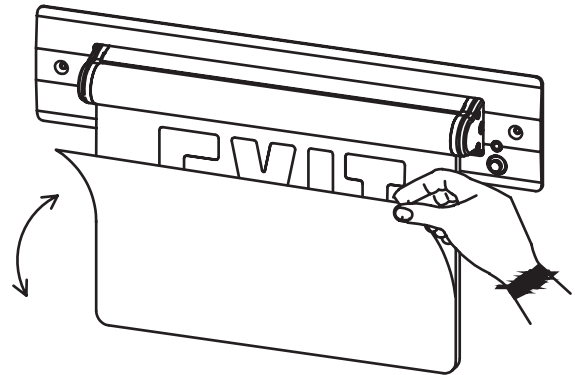

Fig. 9
2. Use screwdriver to open front cover to connect battery connector (With Battery units only). (Fig. 9)
4. Assemble canopy onto main body assembly with (2) PM4*12 screws(supplied) and make proper wire connections. (See **Electrical Connections**).